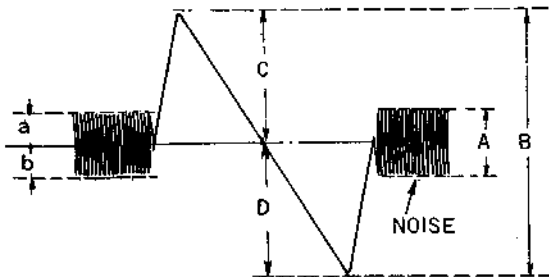

Fig. 3-2-2 "S" Curve Response
- (3) Turn the top core of IFT₃₀₁ with the hexagonal-head alignment tool to obtain an "S" curve response as shown in Fig. 3-2-2.
- (6) Reset the top core of IFT₃₀₁ to equalize negative and positive peaks, as shown in Fig. 3-2-2 (C=D=1/2B)
- (7) Make sure that the "S" curve does not change when the shunting capacitor is removed from the input of the I-F section.
- (8) Disconnect the sweep generator and make sure that the scope displays only noise.